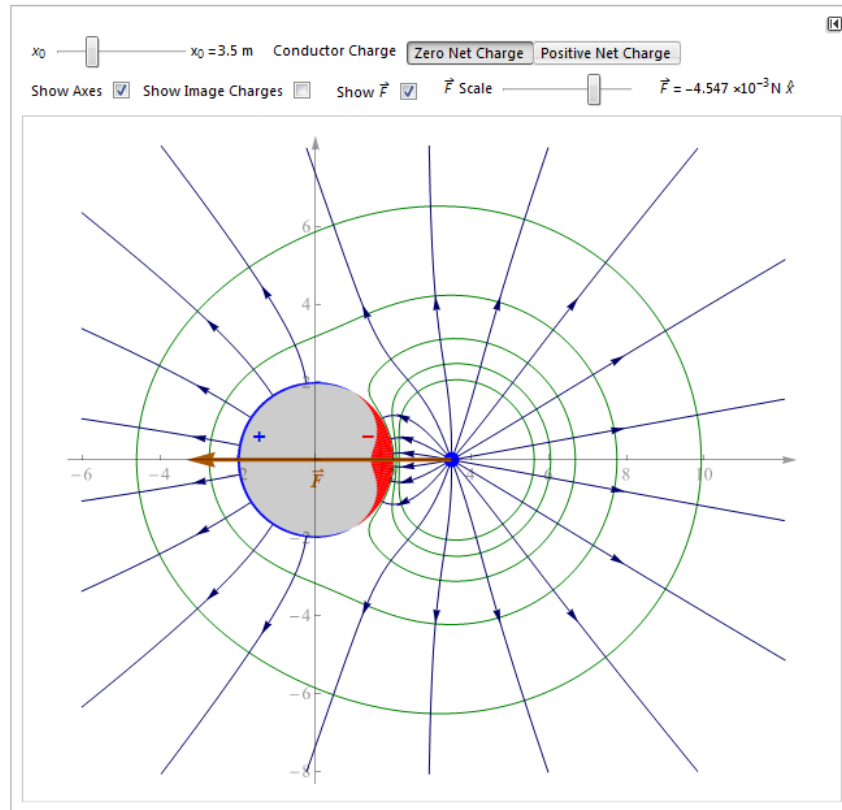

Figure 3
1. Obtain a circuit board and two multimeters. Make sure that your circuit board includes two batteries and that each multimeter includes a pair of test leads (one red and one black). Figure 3 below shows the *AC/DC Electronics Laboratory* circuit board you will use in this experiment.